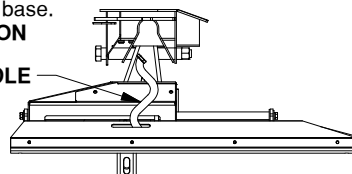

Figure H2: Side view of slider base. UNLOCKED HANDLE POSITION
2. Pull the handle toward the rear of the truck to move it to the unlocked position, shown in Figure H2.